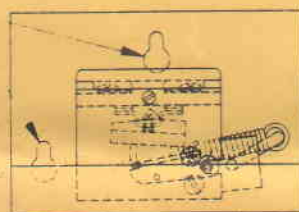

FIGURE 4
1. Dismount switch from plug assembly by loosening two mounting screws (See Fig. 4) and slipping case off key hole slots.